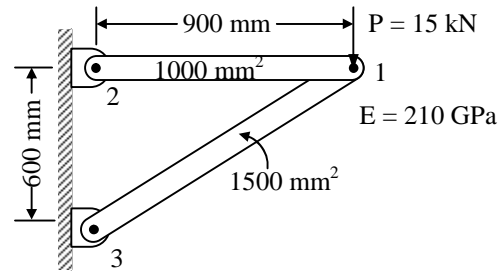

Fig. 2
- b) For the pin jointed configuration shown in **Fig.2**, determine;